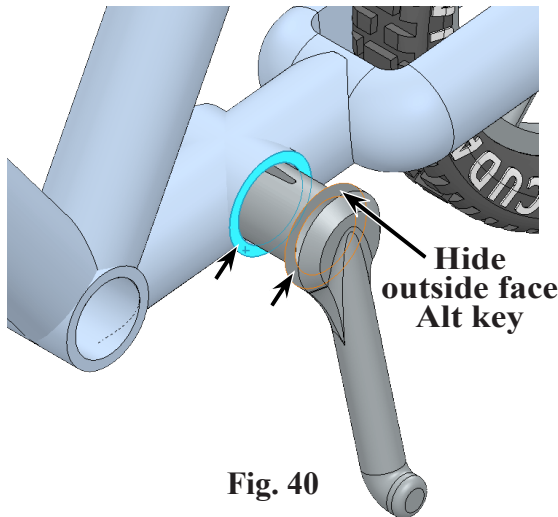

Fig. 40
Step 4. Click **side face of Extrude in Frame at Kickstand hole** and **hide outside cylindrical Revolve face of Kickstand**, click **inside face of Kickstand**, **Fig. 40**. To hide face, hover cursor over face and press **Alt** key.